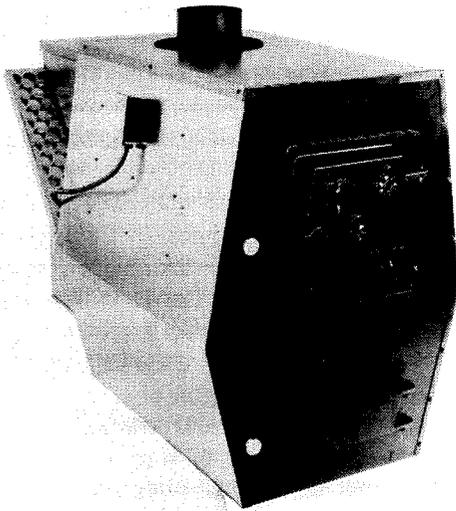

Fig. 81. Kickapoo wood-burning BBR-D Home Furnace.
14. **Kickapoo Stove Works, Ltd.** (manufacturer), Box 127-46, La Farge, WI 54639. The Parlor Furnace has the interior surfaces of the plate-steel hull lined with angled steel ribs to increase radiation. Outer surface is finely ground to a seamless finish to enhance visual appeal. Both models (Fig. 81 and Table 10) have cast-iron doors and frames to resist warpage, and are designed with a special airtight seal. They also have manual draft control and a recessed flue to "retard escape of heat." Grates are high-temperature stainless steel. Solid cast-refractory firepot is 1½ inches thick, weighs 105 pounds, and is edged with steel. The Home Furnace Model BBR-D has a series of heat